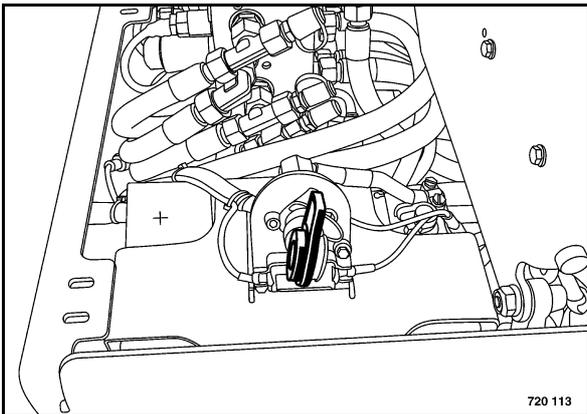

Fig. 67
- Switch off and pull out main battery switch 1 (Fig. 67).
*If the power pack of the remote control is to be recharged via the remote control cable, the main battery switch (Fig. 67) must be switched on.*